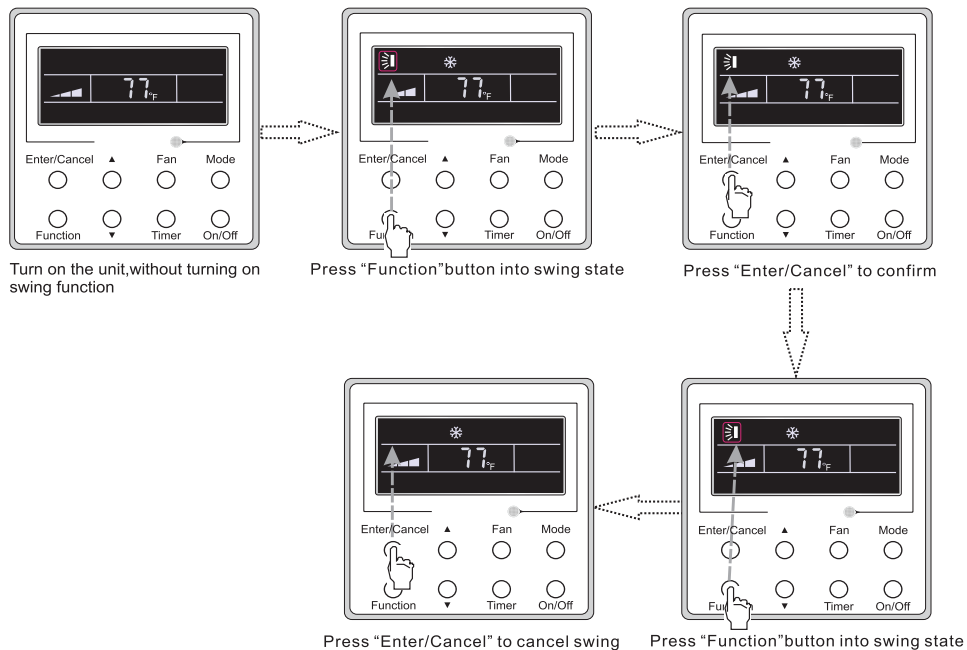

Fig. 12 — Swing mode
- SWING OFF**: When the **SWING** function is on, press **FUNCTION** to enter the **SWING** setting interface . Next, press **ENTER/CANCEL** to cancel the function (see Fig. 12).